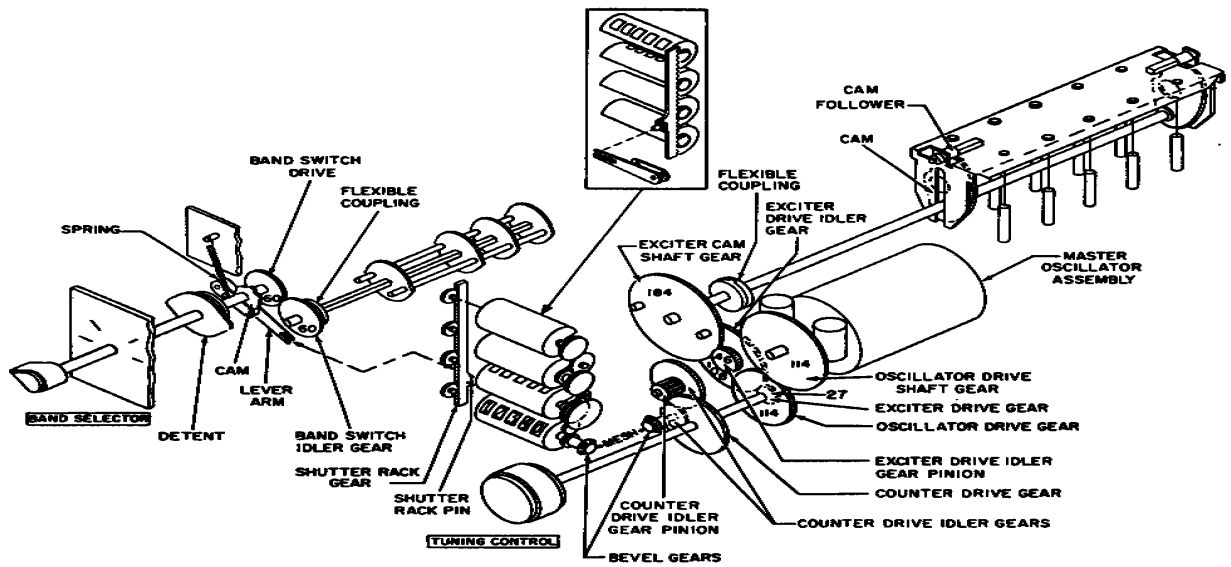

Figure 31 Oscillator-multiplier tuning drive mechanism, functional diagram.
(fig. 31)
*b.* The powdered iron cores of the inductors in the multiplier tank circuits are mounted on a rack which is raised and lowered by two cams and two cam followers. The camshaft is driven by a 184-tooth exciter camshaft gear through a flexible coupling. The camshaft gear is driven from the TUNING CONTROL knob through a 27-tooth exciter drive gear, a 108-tooth exciter drive idler gear, and a 46-tooth exciter drive idler gear pinion. The powdered iron cores can be individually raised or lowered from the top of the rack for alignment purposes. Master oscillator tuning inductor L801 is located inside the sealed master oscillator assembly. The core of L801 is tuned by the tuning control through a 114-tooth oscillator drive gear, a 114-tooth oscillator drive shaft gear, and additional parts inside the sealed assembly. The frequency counters are driven by the tuning control through a counter drive gear, a counter drive idler gear pinion, meshing counterdrive idler gears, and meshing bevel gears. All four counters are driven simultaneously through additional gearing as shown in the box insert of figure 31.